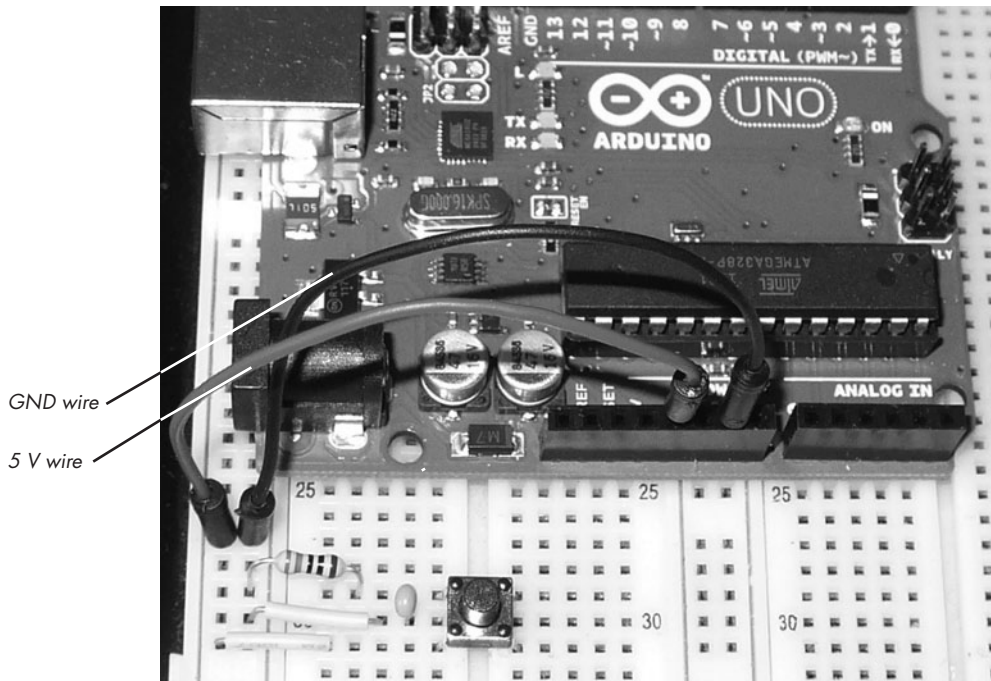

Figure 4-22: The 5 V (red) and GND (black) wires
3. Connect one wire from the Arduino 5 V pin to the leftmost vertical column on the breadboard. Connect another wire from the Arduino GND pin to the vertical row to the right of the 5 V column. Connect another horizontal wire between the vertical GND column and the bottom-left pin of the button. This is shown in Figure 4-22.